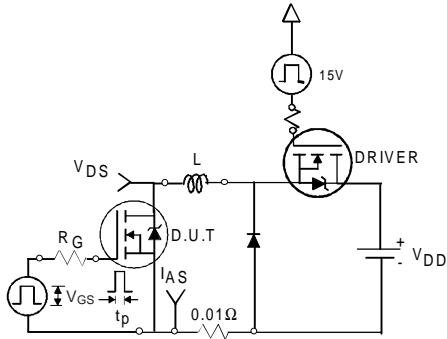

Fig 12a. Unclamped Inductive Test Circuit
- ③ $I_{SD} \leq 85A, di/dt \leq 310A/\mu s, V_{DD} \leq V_{(BR)DSS}, T_J \leq 175^\circ\text{C}$
- ④ Pulse width $\leq 400\mu s$; duty cycle $\leq 2\%$.
- ⑤ $C_{oss\ eff.}$ is a fixed capacitance that gives the same charging time as C_{oss} while V_{DS} is rising from 0 to 80% V_{DSS} .
- ⑥ Calculated continuous current based on maximum allowable junction temperature. Package limitation current is 75A.
- ⑦ Limited by T_{Jmax} , see Fig. 12a, 12b, 15, 16 for typical repetitive avalanche performance.
3. Equation below based on circuit and waveforms shown in Figures 12a, 12b.